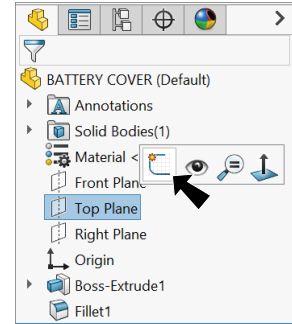

Fig. 9
Step 1. Click **Top Plane**  in the Feature Manager and click **Sketch**  on the context toolbar, Fig. 9.